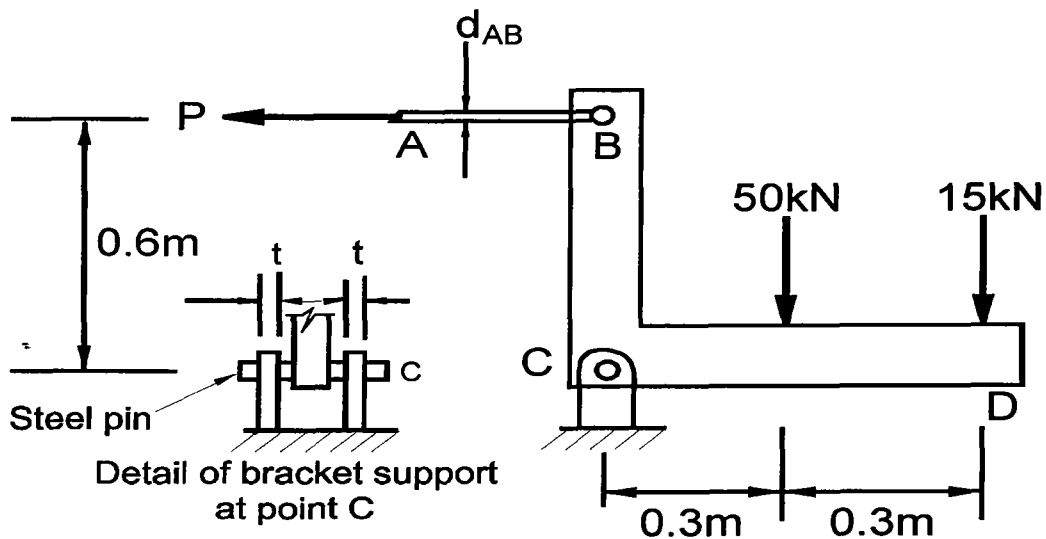

Figure 5 / Rajah 5
- (b) Figure 5 shows bracket BCD with two applied forces of 50kN and 15kN.